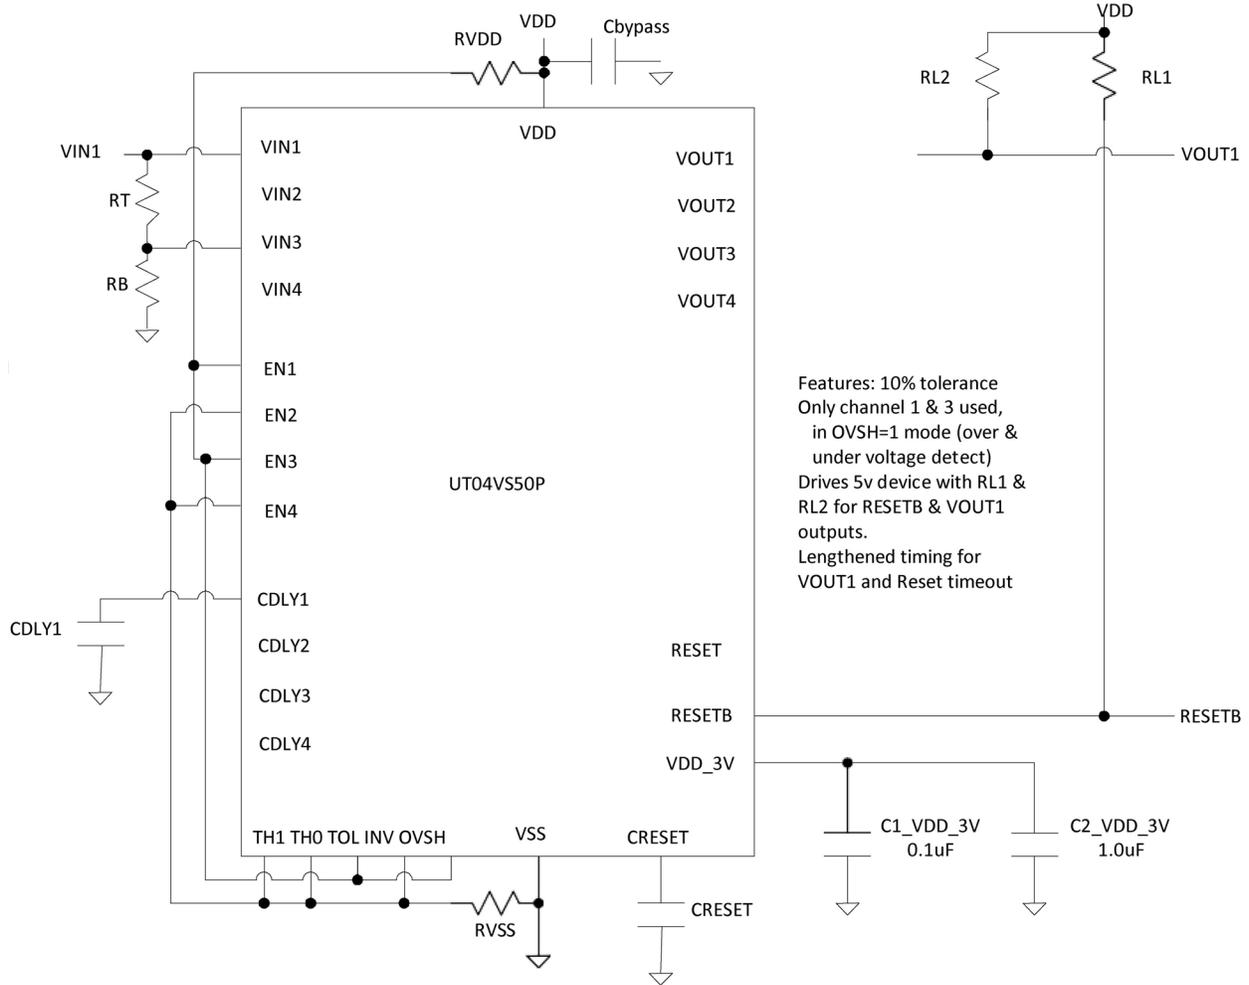
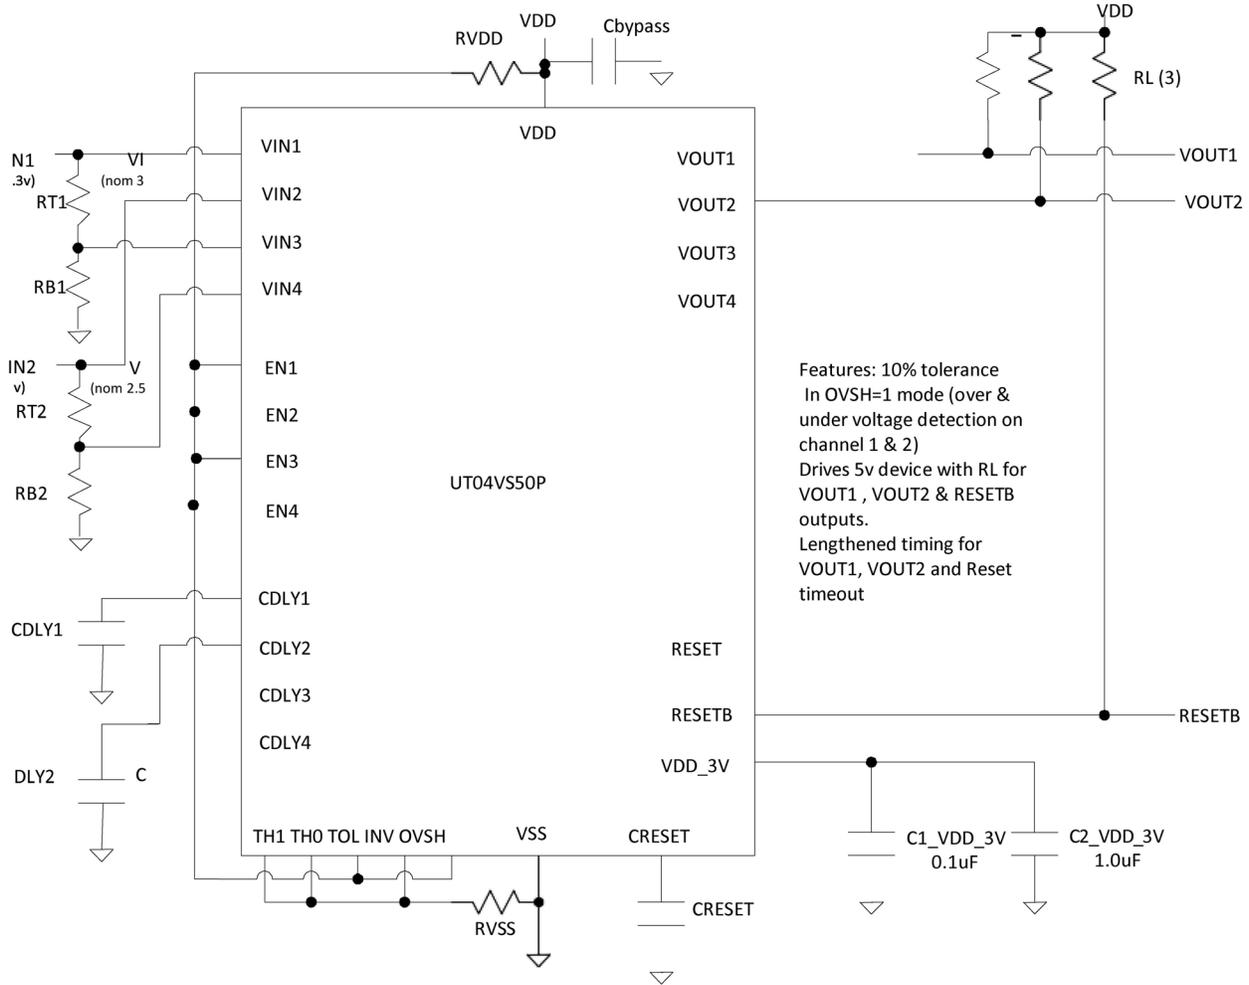

Figure 8. Extended use application showing OVSH connection for channel 1
Figure 9. Extended use application showing OVSH connection for channel 1 and 2
- For OVSH=1, VTH\_OVRV is the threshold which is set with external resistors to either the VIN3 or VIN4 input to monitor an over-voltage condition in conjunction with the under-voltage monitor by VIN1 or VIN2, respectively, as shown in Figure 8 and Figure 9.
Shown in Figure 8 is an extended application showing the use of Cdly and Creset capacitors. OVSH is set to logic 1 to highlight the under- and over-voltage detection mode connections. Thus, a resistor voltage-divider on channel 3 is connected from the channel 1 source.
Shown in Figure 9 is an extended application showing the use of Cdly and Creset capacitors. OVSH is set to logic 1 to highlight the under- and over-detection mode connections on channel 1 and channel 2. Thus an resistor voltage dividers on channel 3 and 4 are connected from the channel 1 and 2 source, respectively.